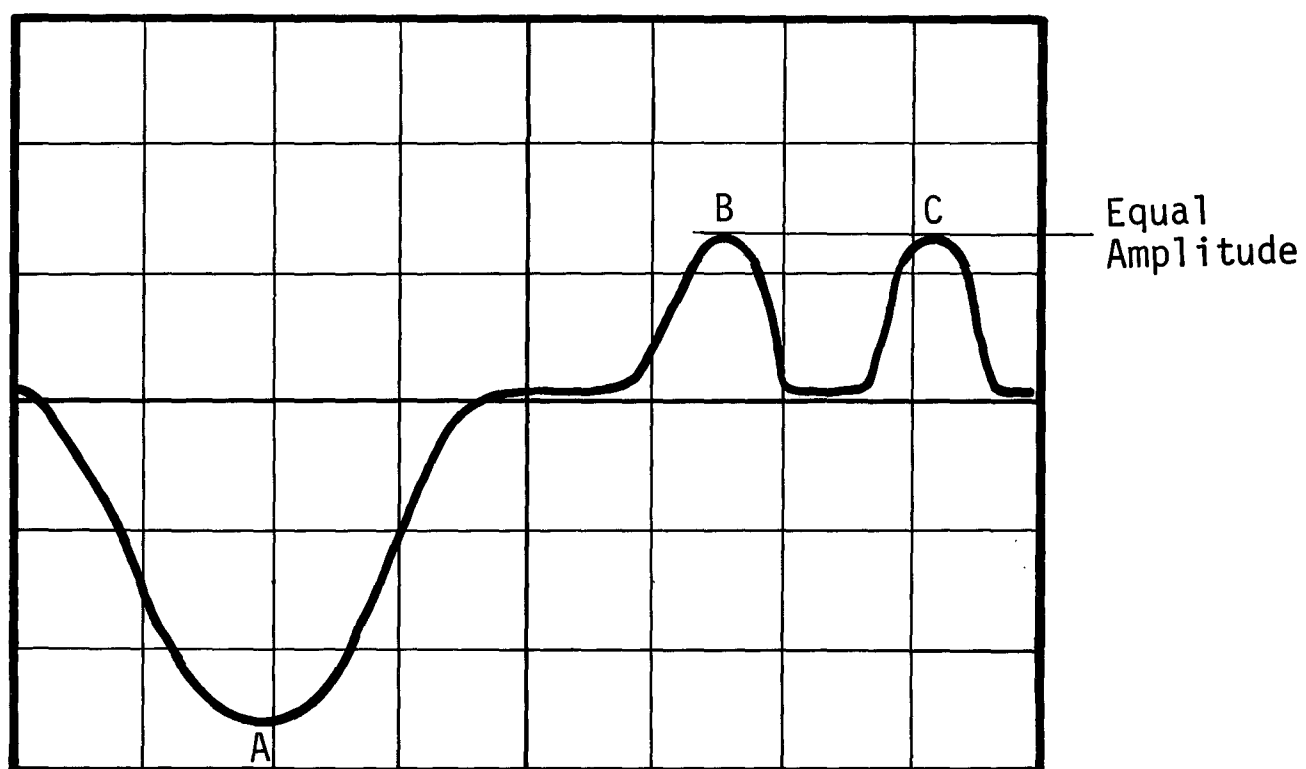

Figure 2-12. Track Following Adjustment Waveform
7. Observe Oscilloscope Channel A and verify peaks B and C (see Figure 2-12) are of equal amplitude.